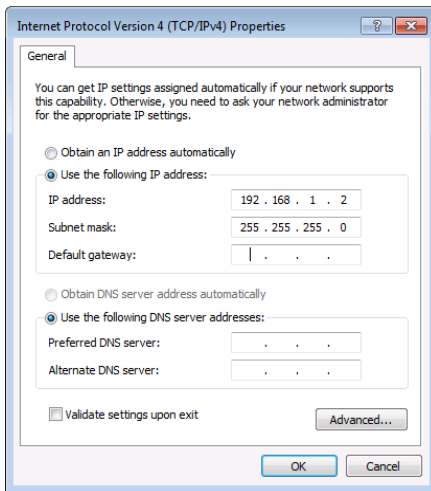

Figure 282: Internet Protocol Properties Window
6. Select **Use the following IP Address** for static IP addressing and fill in the details as shown in Figure 282. For TCP/IPv4 you can use any IP address in the range 192.168.1.1 to 192.168.1.255 (excluding 192.168.1.39) that is provided by your IT department.